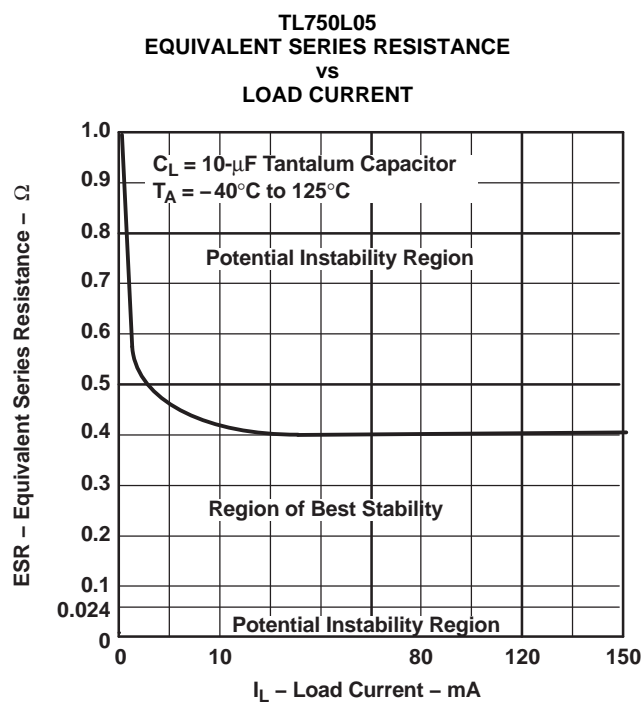

Figure 1.
- (1) Stresses beyond those listed under "absolute maximum ratings" may cause permanent damage to the device. These are stress ratings only, and functional operation of the device at these or any other conditions beyond those indicated under "recommended operating conditions" is not implied. Exposure to absolute-maximum-rated conditions for extended periods may affect device reliability.
- (2) The transient input voltage rating applies to the waveform shown in Figure 1.
The TL750L, TL751L series are low-dropout regulators. This means that capacitance loading is important to the performance of the regulator because it is a vital part of the control loop. The capacitor value and its equivalent series resistance (ESR) both affect the control loop and must be defined for the load range and temperature range. Figure 1 shows the recommended range of ESR for a given load with a 10- $\mu\text{F}$  capacitor on the output.